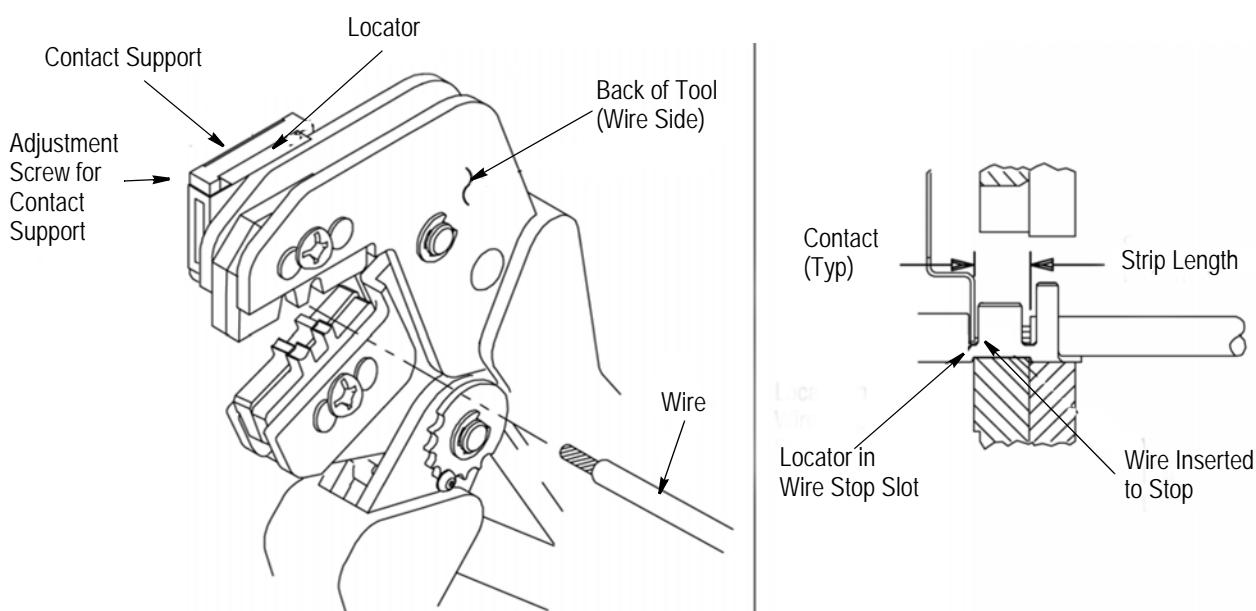

Figure 3
*The contact support is preset prior to shipment, but minor adjustment may be necessary. Refer to Figure 3.*
Refer to the table in Figure 1 and select wire of the specified size and insulation diameter. Strip the wire to the length indicated in Figure 1, taking care not to nick or cut wire strands. Select an applicable contact and identify the appropriate crimp section according to the wire size markings on the tool. Refer to Figure 3 and proceed as follows:
3. Position the contact so that the mating end of the contact is on the locator side of the tool, and so that the open "U" of the wire and insulation barrels face the top of the tool. Place the contact up into the nest so that the movable locator drops into the slot in the contact. Refer to Figure 3. Butt the front end of the wire barrel against the movable locator.
5. Insert stripped wire into contact insulation and wire barrels until it is butted against the wire stop, as shown in Figure 3.
*The crimped contact may stick in the crimping area, but the contact can be easily removed by pushing downward on the top of the locator (see Figure 3).*